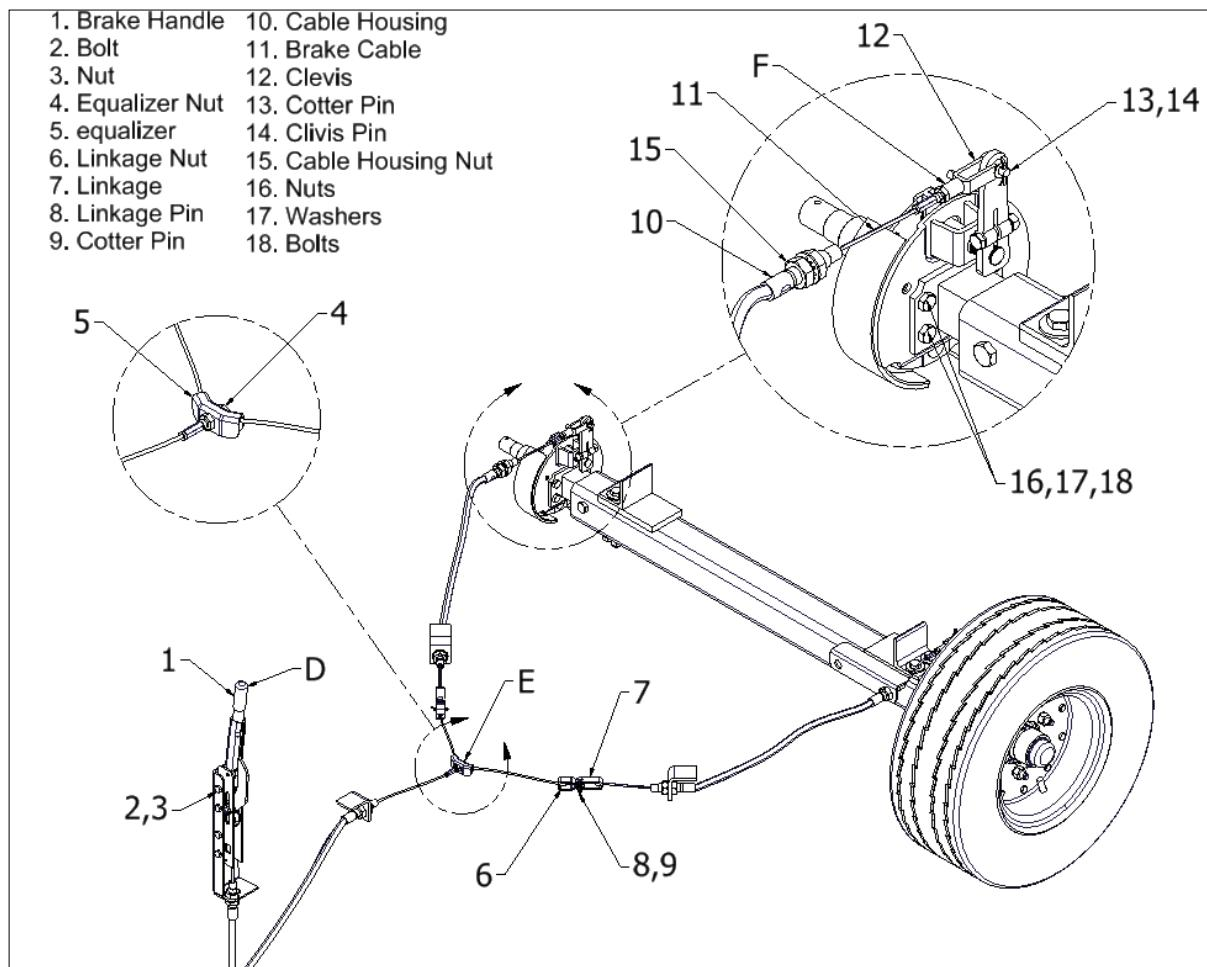

Figure 4-10 Brake and Cable Assembly
- c. Remove brake cable end from arm (5) as described in Section 4.17, step (a).
- d. Remove nuts (16), washers (17), and bolts (18) shown in Figure 4-10.
- f. Remove spring (3).
- g. Release brake shoes (2) by removing spring (9) from the backing plate (1).
- h. Remove nut (7), lock washer (8), and bolt (6) to release arm (5).
- i. Remove brake cam bolt (4) by pulling directly outward.
An in-field adjustment can be made at the brake handle by turning the handle cap clockwise to tighten brakes and counterclockwise to loosen the brakes (see reference arrow D in Figure 4-10.) This adjustment must be made with the brake handle in the off position. Maintenance level adjustments can be made at reference arrow E and reference arrow F of Figure 4-10 (each side).
The brake handle and cable assembly only need to be disassembled to the point that the repair is needed. These instructions start at the wheel assembly and progress toward the brake handle (1). (Figure 4-10)
- a. Remove cotter pin (13) and clevis pin (14) to release clevis (12).
- b. Unthread clevis (12) from cable
- c. Remove nut (15) and remove cable housing (10) from bracket.
- d. Remove nut at opposite end of cable and disassemble cable linkage parts (6), (7), (8), and (9).
- f. Remove nut (4) to release cable equalizer (5).
- h. Remove nut at other end of cable and release cable by disassembling cable linkage from brake handle (1).
- i. Remove bolts (2) and nuts (3) to free brake handle (1).